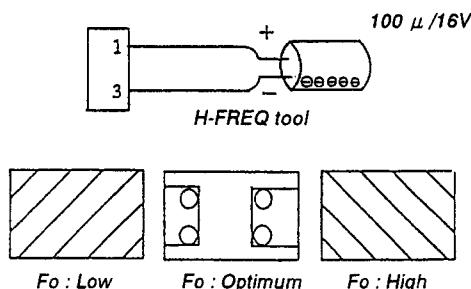

Fig. 1
5. Adjust [60H-FREQ] so that the diagonal lines on the screen become vertical lines. (Fig. 1)
7. Adjust [50H-FREQ] so that the diagonal lines on the screen become vertical lines. (Fig. 1)